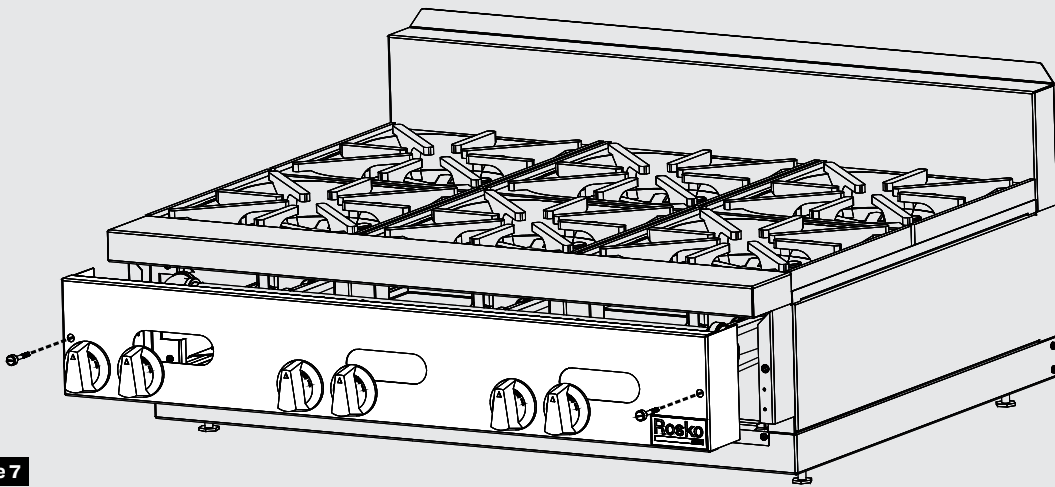

Figure 7
1. To measure the gas pressure, remove the control knobs, unscrew the bolts, and remove the front panel. **(Figure 7)**